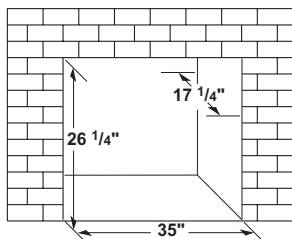

Figure 20 - Rough Opening for Installing in Masonry Fireplace
1. Use dimensions shown in Figure 20, page 16 for the masonry fireplace opening.